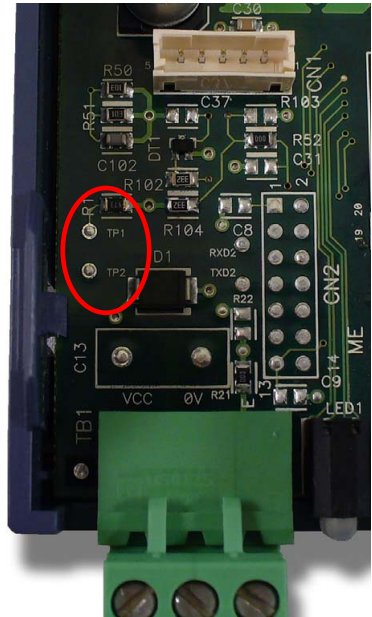

Figure 16: TP1 and TP2
2. Locate test points TP1 and TP2 on the lower-left hand side of the interface card, and short them together with a tool such as a flat-bladed screwdriver (refer to Figure 16).